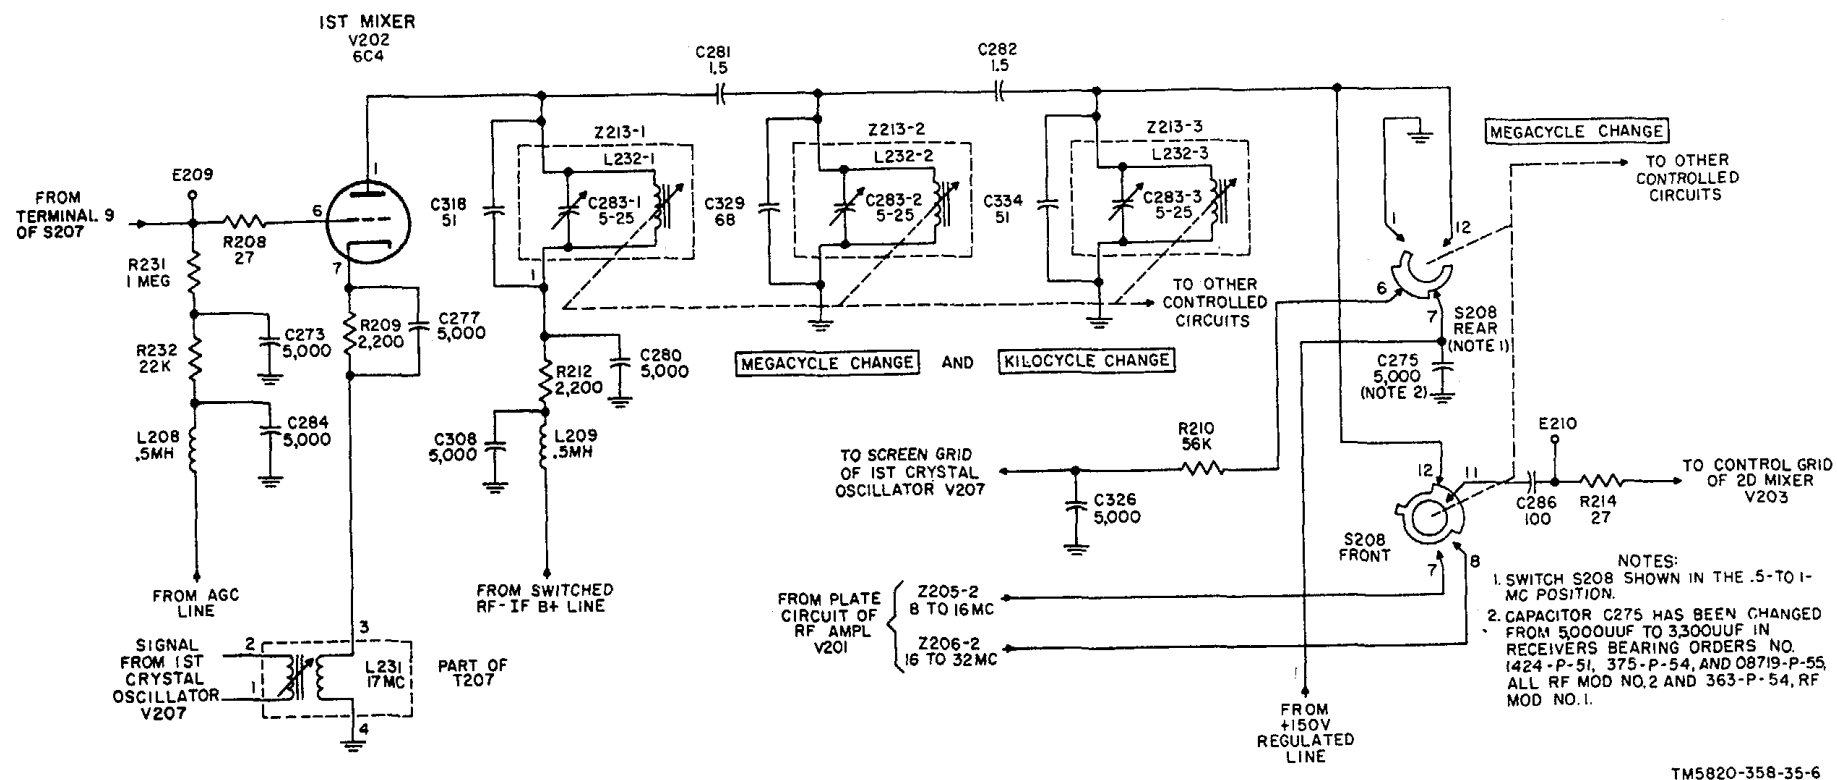

Figure 4. First mixer V202, simplified schematic diagram.
8. First Mixer V202 (fig. 4)
(fig. 4 and 5)